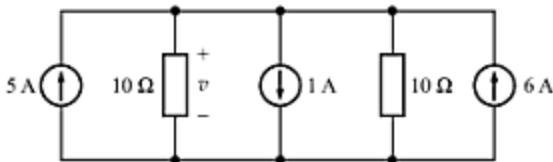

Fig. A-85
- A-44. Determine voltage  $v$  in the circuit of Fig. A-85.